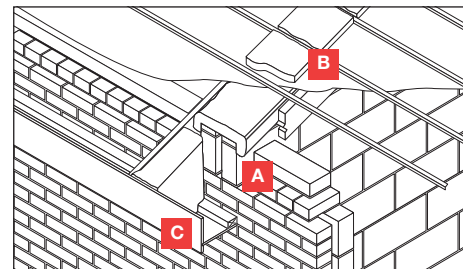

Fig. 35 – Separating wall with fire stop
- 6 Fire resistant material must be securely fixed without support from the soffit board (Fig. 35). The following materials can be useful for this purpose: